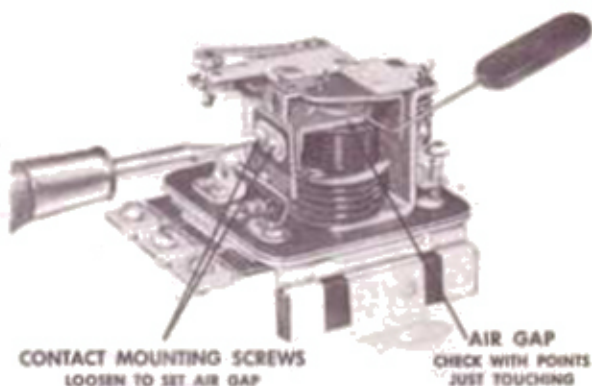

Figure 14—Current-voltage unit air gap check and adjustment (1118300 and 1118700 series).
**AIR GAP (1118300 and 1118700 Series)**—Check and adjust air gap as in 1118200 Series (Fig. 14).